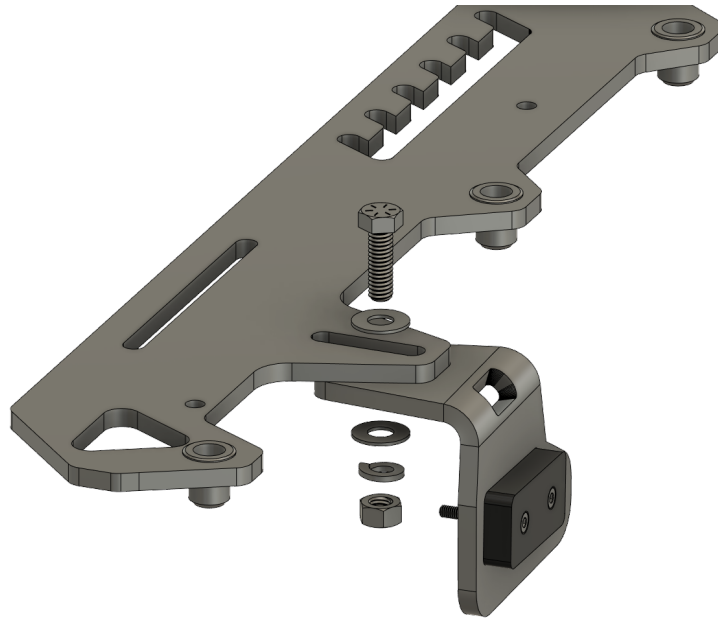

Figure 3
- Assemble the hardware as shown above (**Figure 3**) and attach the pressure foot to the grooveTEK. The slot(s) are machined in to allow adjustment of the pressure foot to match the contour of the roof of your vehicle after installation.
- Assemble the hardware in the order shown above (**Figure 3/4**) and install all six (6) feet to the driver (1043) and passenger (1044) side grooveTEK.